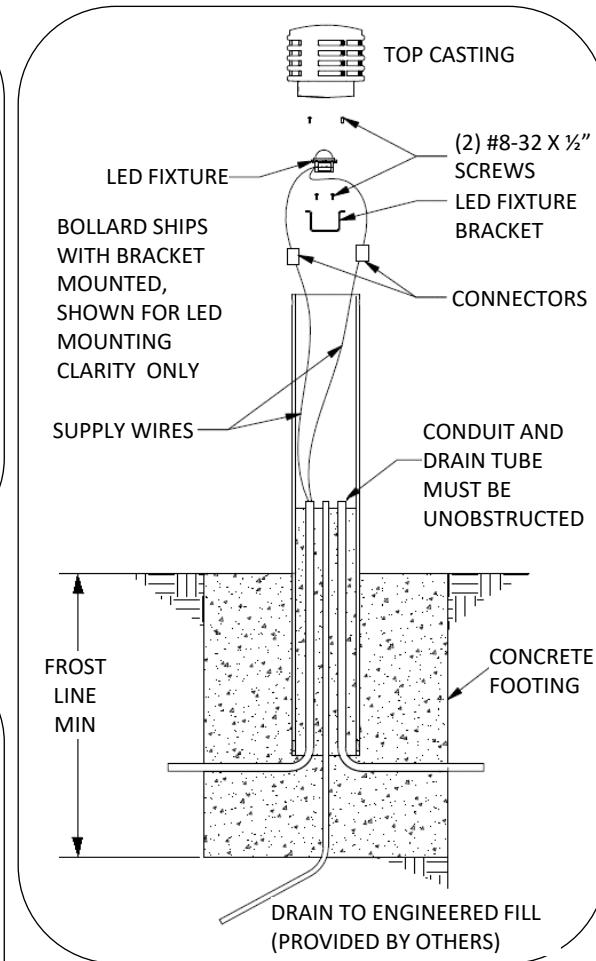
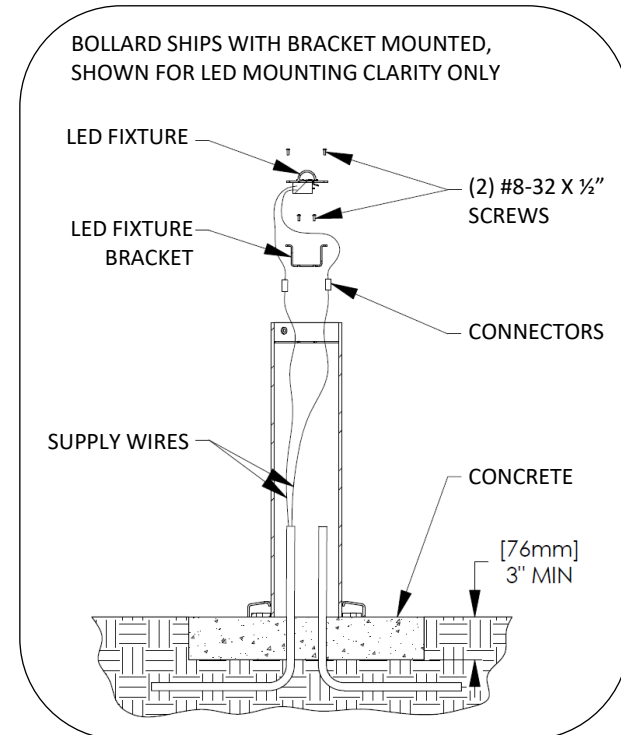

FIG. 4 - ALTERNATE FOOTING DETAIL FOR EMBEDDED BOLLARD WITH LOW VOLTAGE LIGHT
FIG. 6 - SURFACE MOUNT BOLLARD WITH LED LOW VOLTAGE LIGHT DETAIL
4. Attach LED light assembly to LED mounting bracket with two 8-32 x 1/2" socket button head cap screws. Tighten securely. See Fig. 4 and Fig. 6.
2. Place bollard in the desired position and mark hole locations. See Fig. 6.